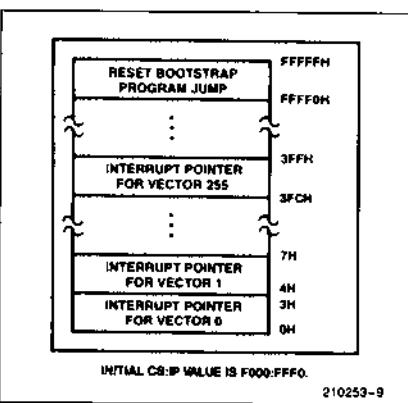

Figure 9. IAPX 86 Real Address Mode Initially Reserved Memory Locations
The 80286 reserves two fixed areas of memory in real address mode (see Figure 9); system initialization area and interrupt table area. Locations from addresses FFFF0(H) through FFFFF(H) are re-